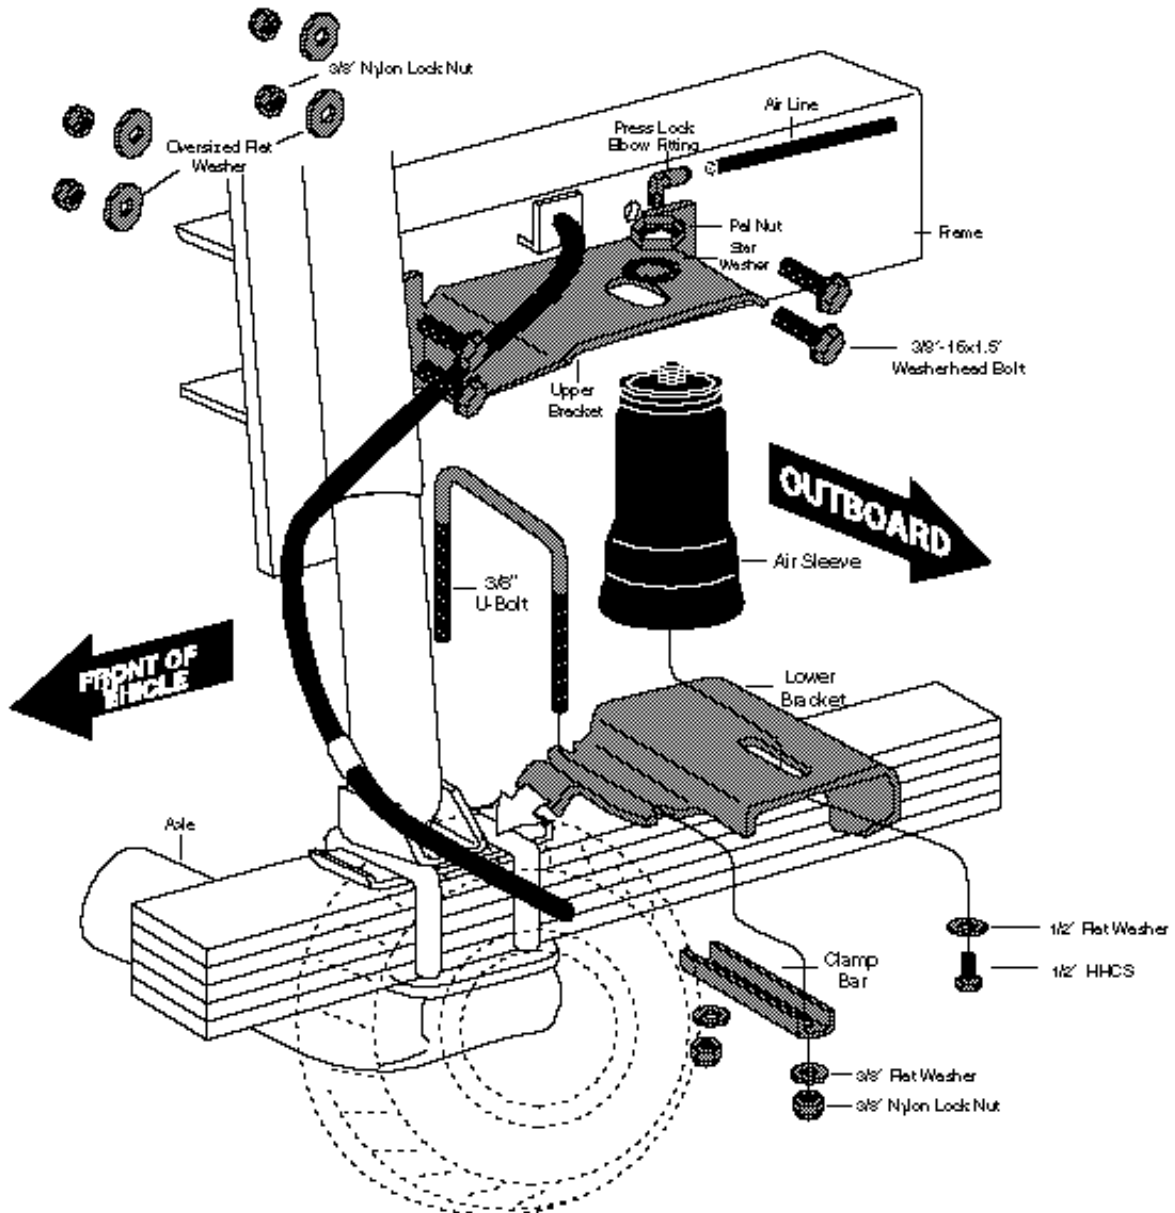
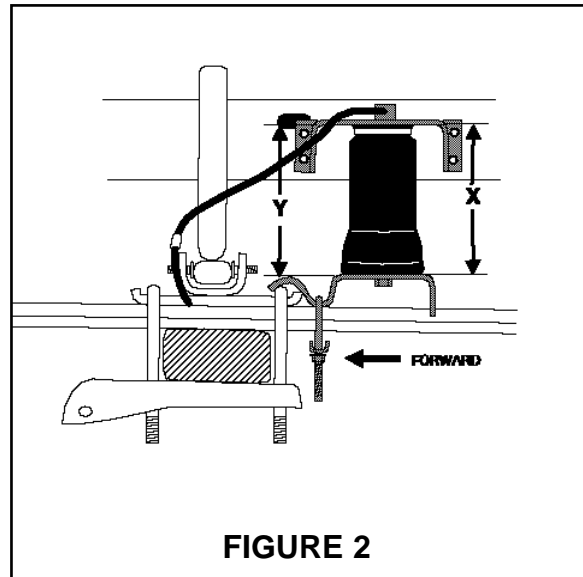
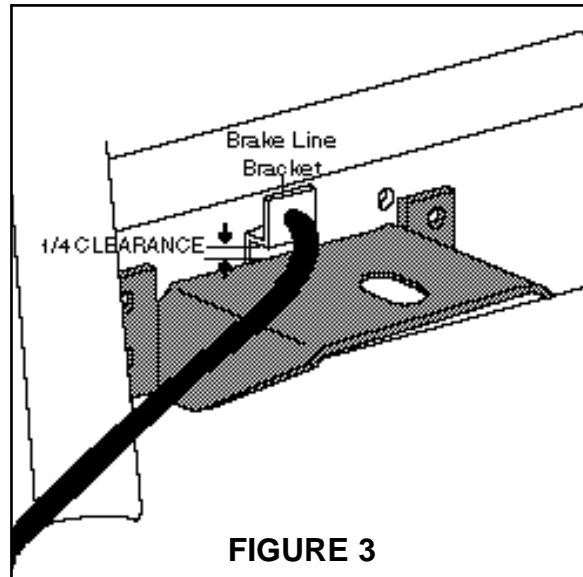

FIGURE 1
FIGURE 2
FIGURE 3
2. Attach top bracket to sleeve using star washer and nut, leave loose for later adjustment (Figure 1). LOOSELY attach the lower bracket to the bottom of the sleeve. Using the provided 1/2" flat washer and the 1/2" HHCS bolt (Figure 1). Note: Bottom brackets are left and right hand units. Slot faces outside of vehicle.
3. Set unit on the leaf spring with the tab of the lower bracket over the u-bolt (Figure 2). **THE LOWER BRACKET MUST BE OVER THE U-BOLT NOT THE SPRING RETAINER PLATE.** Attach to the leaf spring with u-bolt, clamp bar, flat washers, and locknuts, mount and tighten nuts to 20 ft.lbs (Figure 1).
4. Mount the upper bracket approximately 1/4" underneath the brake line bracket on the frame rail (Figure 3). Using the bracket as a template, mark two holes on each side of the bracket to be drilled. X and Y dimensions (Figure 2) should be equal. The sleeve should be mounted so that it follows the natural arc of the suspension through its full travel (Figure 1). Remove the upper bracket and drill your four 3/8" holes.